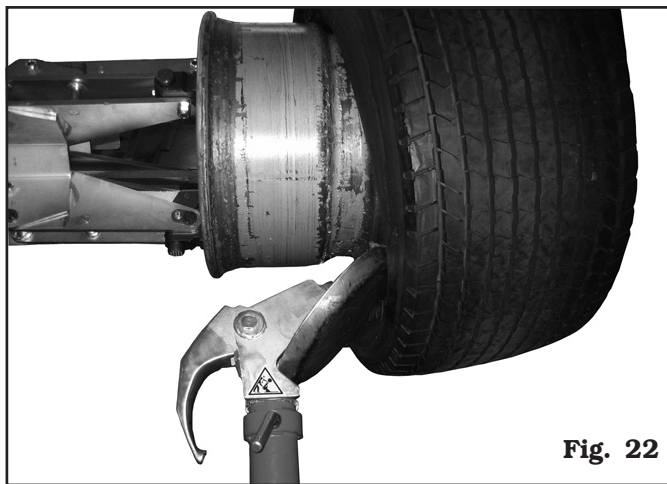

Fig. 22
- A.** If the wheel does not present particular problems, continuing beading operation will completely dislodge the beads from the rim. The inner bead, pushed by the disc, presses against the outer one till it has been completely removed (see **Fig. 22**).